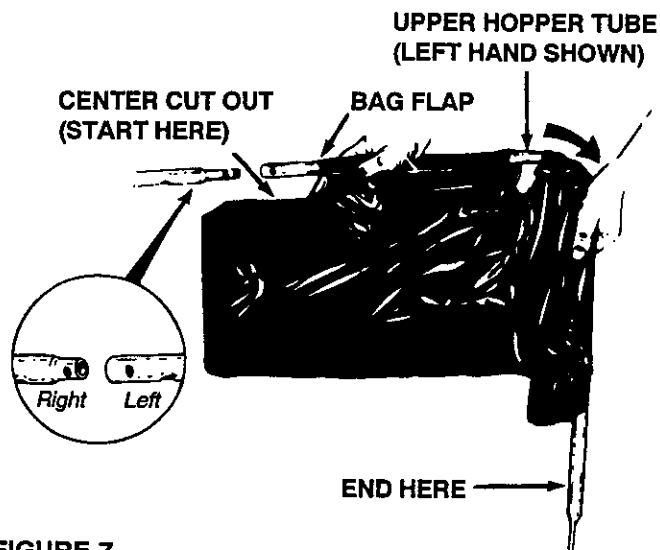

FIGURE 7
- Insert the left hand upper hopper tube through the stitched flaps of the hopper bag, **starting at the center cut out** in the top of the bag. See figures 7, 8 and 9. Repeat for the right hand upper hopper tube.